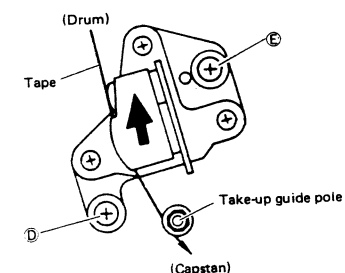

Fig. 2-25 Control head phase adjustment
4. Loosen screws (D) and (E) (Fig. 2-25) to the degree that allows sliding the A/C head. Slide the A/C head fully toward the capstan direction.
5. Set the A/C head positioning tool (PUJ47351-2) onto screw (E) with the pin of the tool inserted into the hole.